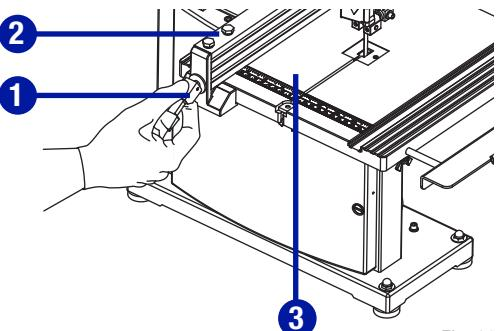

Fig. 11
**SETTING THE RIP FENCE ON THE WORK TABLE (Fig. 11)**
- Raise the fence locking lever (1) on the rip fence (2).
- Place the rip fence on the work table (3) so that the fence locking lever is at the front of the work table.